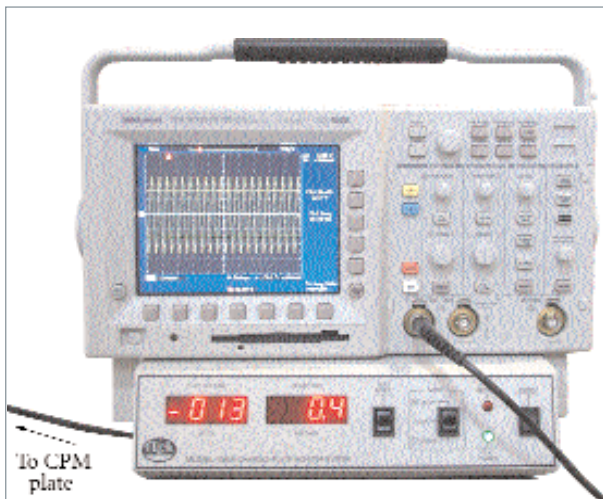

Figure 2. Using A Charge Plate Monitor Along With A DSO
In a recent preventative maintenance (PM) operation, a VF ionizer was operated at a frequency of 16 Hz. The ionizer was measured with a Trek 156A CPM and a Tektronix TDS340 (100 MHz) DSO. Measurements were taken with the CPM plate placed 60 cm from the ionizer. (See Figure 2.) The CPM indicated offset readings from 0 to 14, representing a maximum offset voltage of 14 volts, while the oscilloscope indicated 87 volts. This variance can mean the difference between protecting and damaging the product.